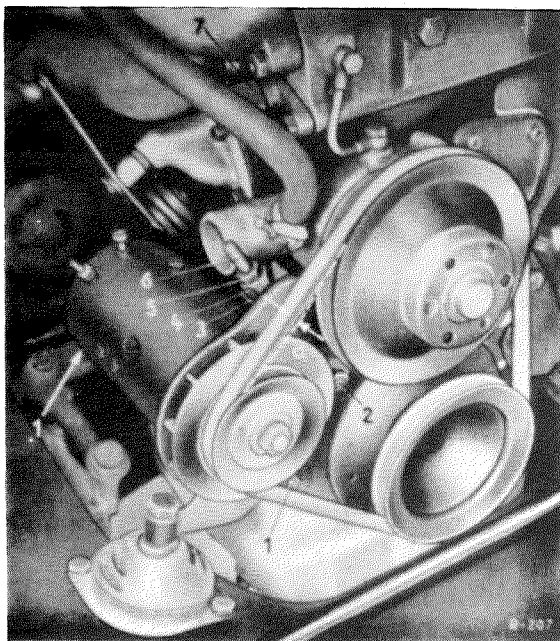

Fig. 01—4/20
2. Remove the nuts of the generator mounting (1) and the clamping device nuts (2—6), and turn the clamp nut (4) far enough to the right to allow the generator Vee-belt to be removed (Fig. 01—4/20).